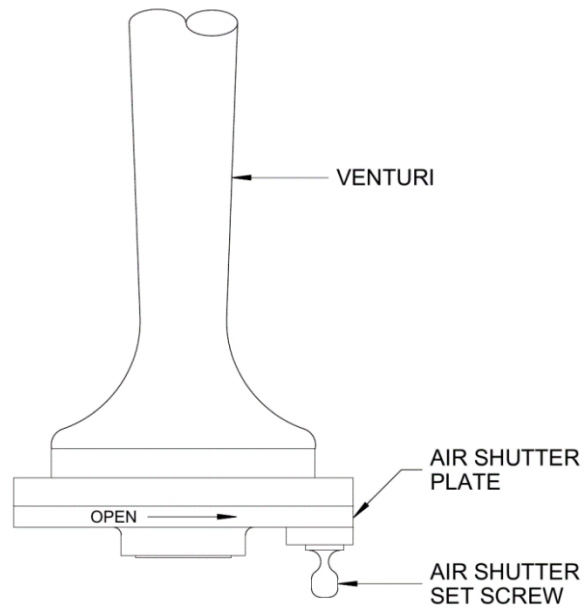

Figure 13 – Air Shutter Adjustment
- ✓ Close the air plate on the venturi completely (see Figure 13).
Refer to Figure 13 to identify the parts and follow the steps below to adjust the air shutter.